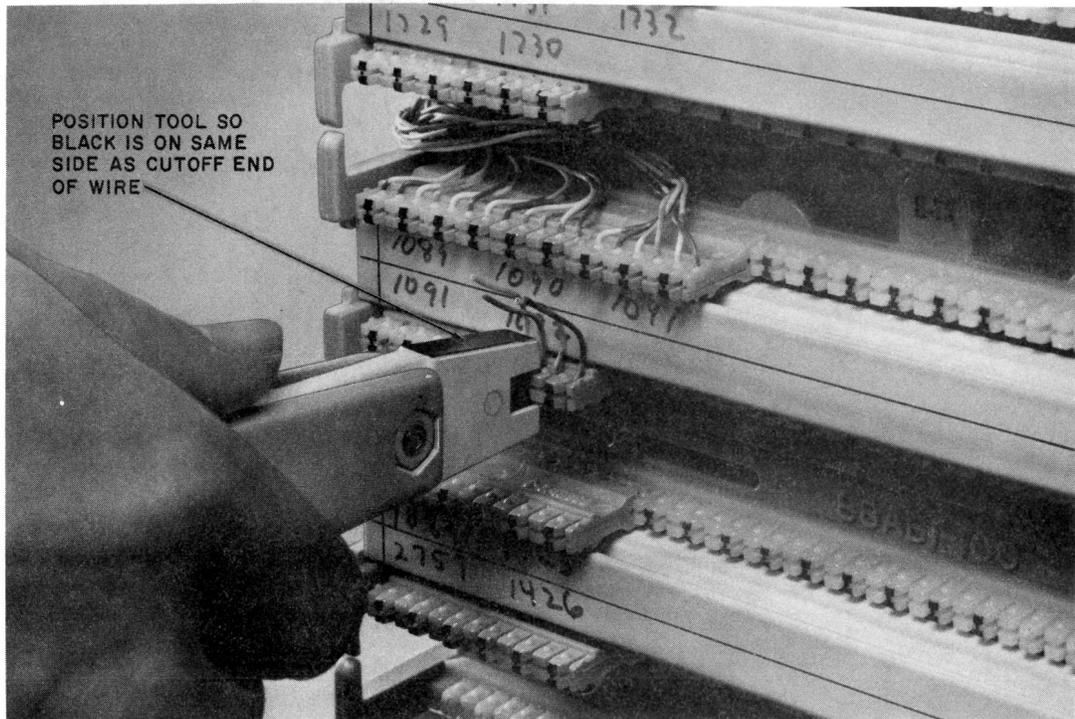

Fig. 25—Terminating Cross-Connect Wire
3.20 Using the 788D4 tool with the insertion/cutoff head extended, seat and cut off the excess wire as shown in Fig. 25. **The black side of the head must face the scrap end of the wire, which may be on the top side or the bottom side of the connecting block.** The D impact tool can also be used for this operation (using the proper blade), **but the 788C1 or 788J1 should not be used.**